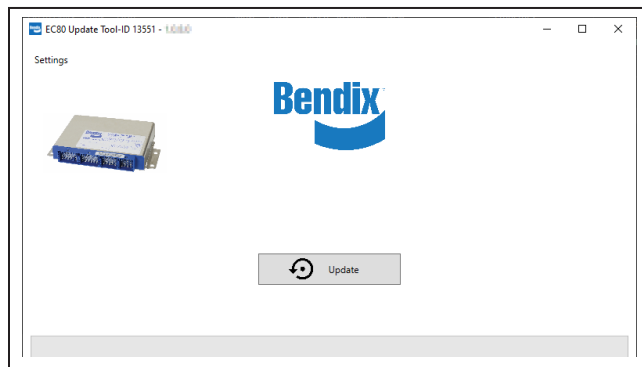

Figure 2 – Update Icon
3. Select *Update*. See Figure 2.